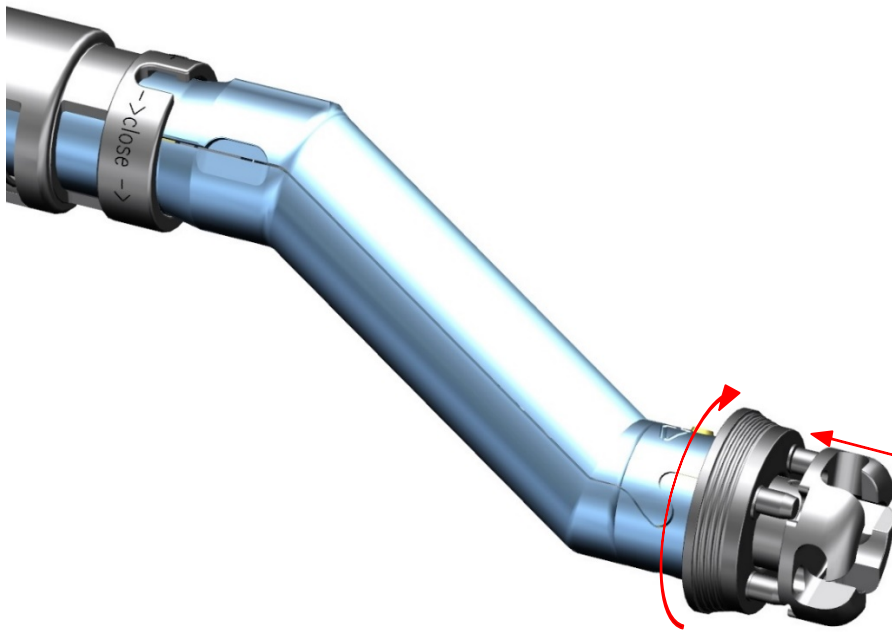

Figure 4: Prima Curve 2.0, **Ring with 4 pins in "permanently open" position**
- When connecting the acetabulum reamer by attaching (1) and then twisting (2), it locks into the cutter by itself – see exception Figure 4.